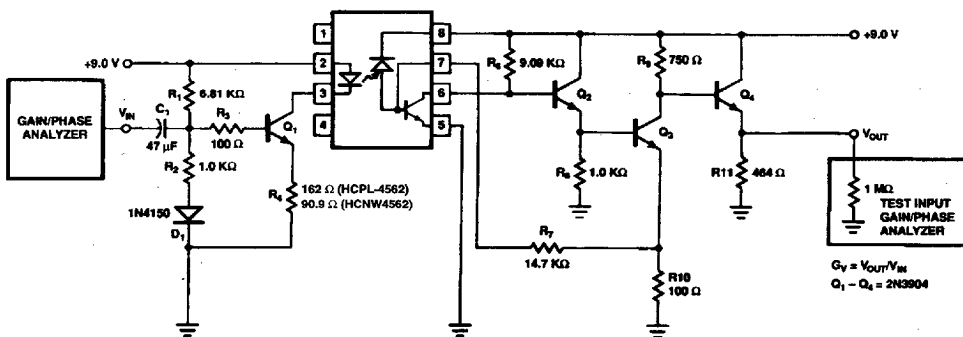
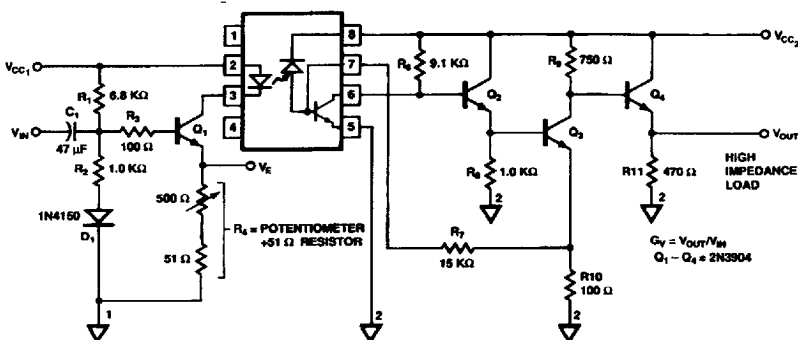

Figure 1. Gain and Bandwidth Test Circuit.
Figure 4. Recommended Isolated Video Interface Circuit.
- When used in the circuit of Figure 1 or Figure 4; $G_V = V_{\text{OUT}}/V_{\text{IN}}$; $I_{\text{FQ}} = 6 \text{ mA}$ (HCPL-4562), $I_{\text{FQ}} = 10 \text{ mA}$ (HCNW4562).
In order to obtain similar circuit performance when converting from the HCPL-4562 to the HCNW4562, it is recommended to increase the Quiescent Input Current, I_{FQ} , from 6 mA to 10 mA. If the application circuit in Figure 4 is used, then potentiometer R4 should be adjusted appropriately.
The application circuit in Figure 4 incorporates several features that help maximize the bandwidth performance of the HCPL-4562/HCNW4562. Most important of these features is peaked response of the detector circuit that helps extend the frequency range over which the voltage gain is relatively constant. The number of gain stages, the overall circuit topology, and the choice of DC bias points are all consequences of the desire to maximize bandwidth performance.